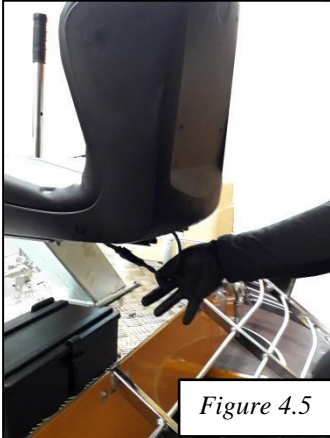

Figure 4.5
- Connect the wire of the seat microswitch (fig. 4.5).